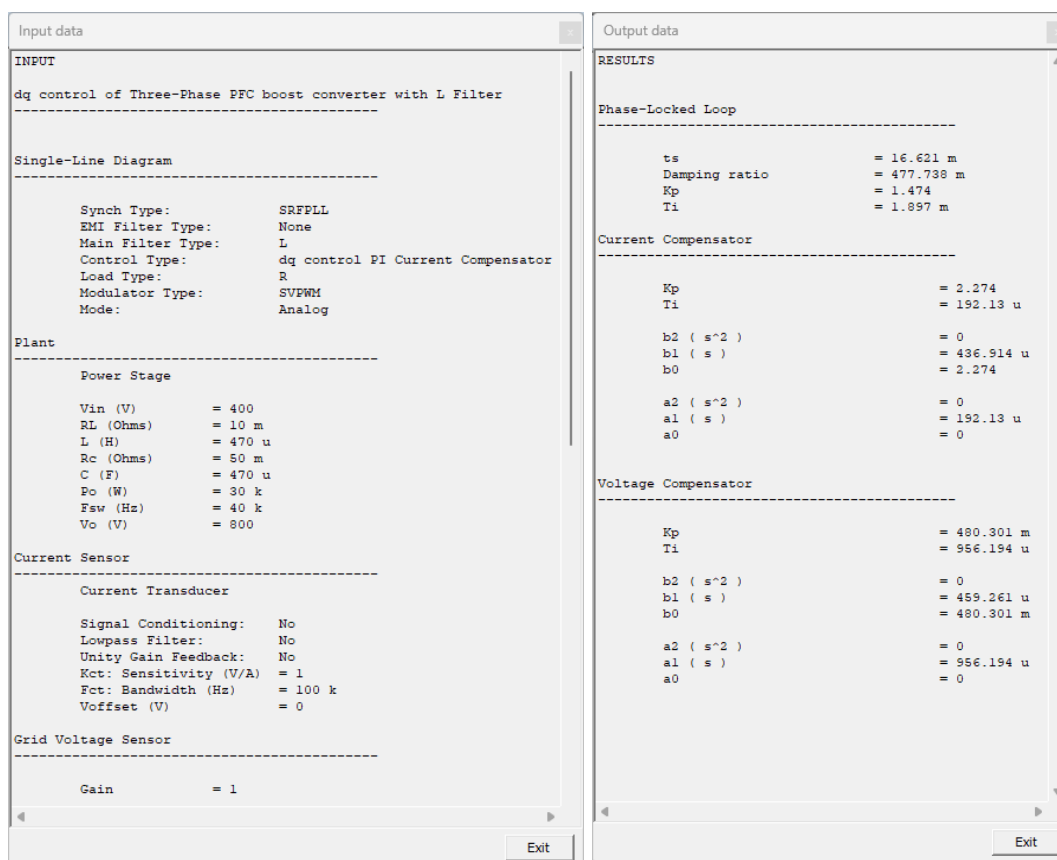

Figure 18: Input and output data reports
13. Once all the control loops have been designed, the input  and output  reports can be obtained. See Figure 18.